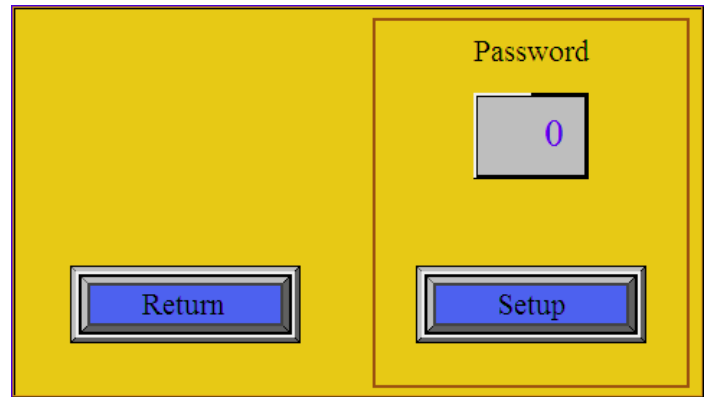

Fig. 14: Service Screen
1. A hidden icon is located in the upper right corner of the main screen. This icon is there for a trained service technician. To access this icon you need to enter a password (fig. 14).